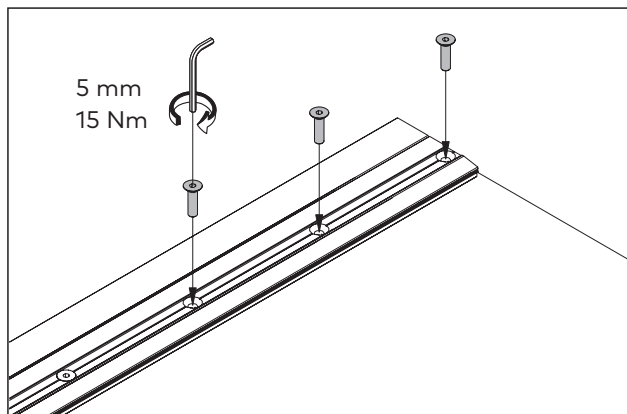

Fig. 20 Tightening the door rail screws
8. Tighten the screws so that the top door rail clamps firmly on the glass (Fig. 20).
3. Tighten the screws so that the top door rail clamps firmly on the glass (Fig. 20).